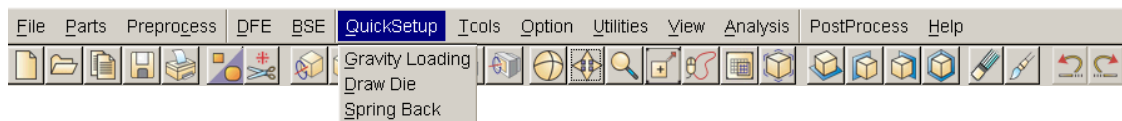

Figure 8.1 The Quick Setup menu.
The functions provided in the QuickSetup (QS) user graphic interface (GUI) help the user to quickly setup a forming simulation. The QS menu consists of several standard-forming operations as shown in Figure 8.1.